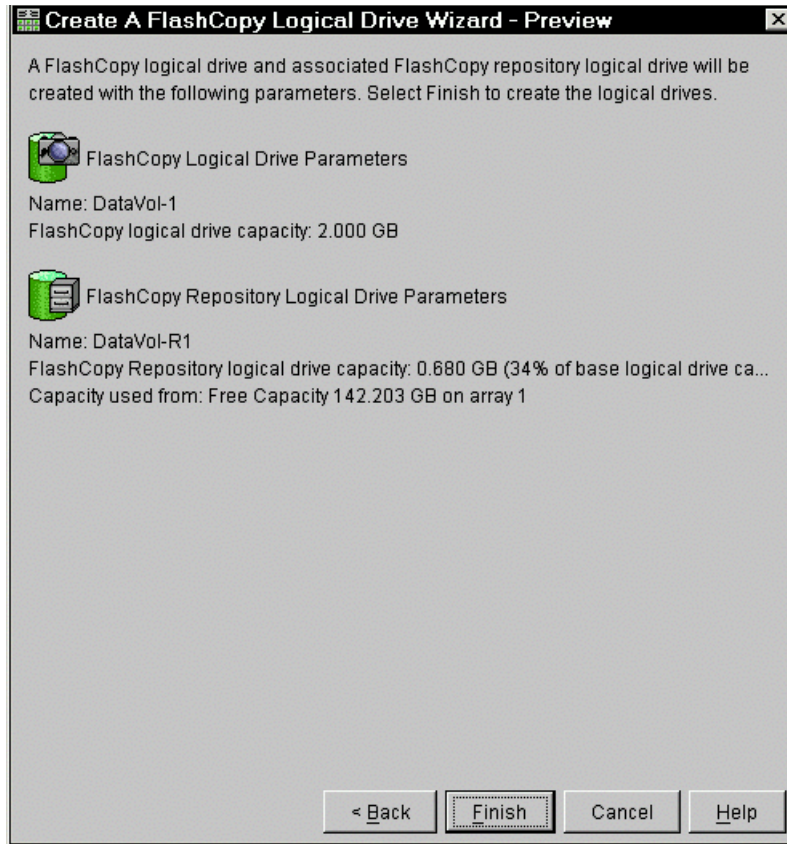

Figure 5-17 Preview window
- g. The Create FlashCopy Logical Drive Wizard - Completed window (Figure 5-17) appears. It display the associated logical drives and components that make up the FlashCopy relationship. Click **Finish** to continue.